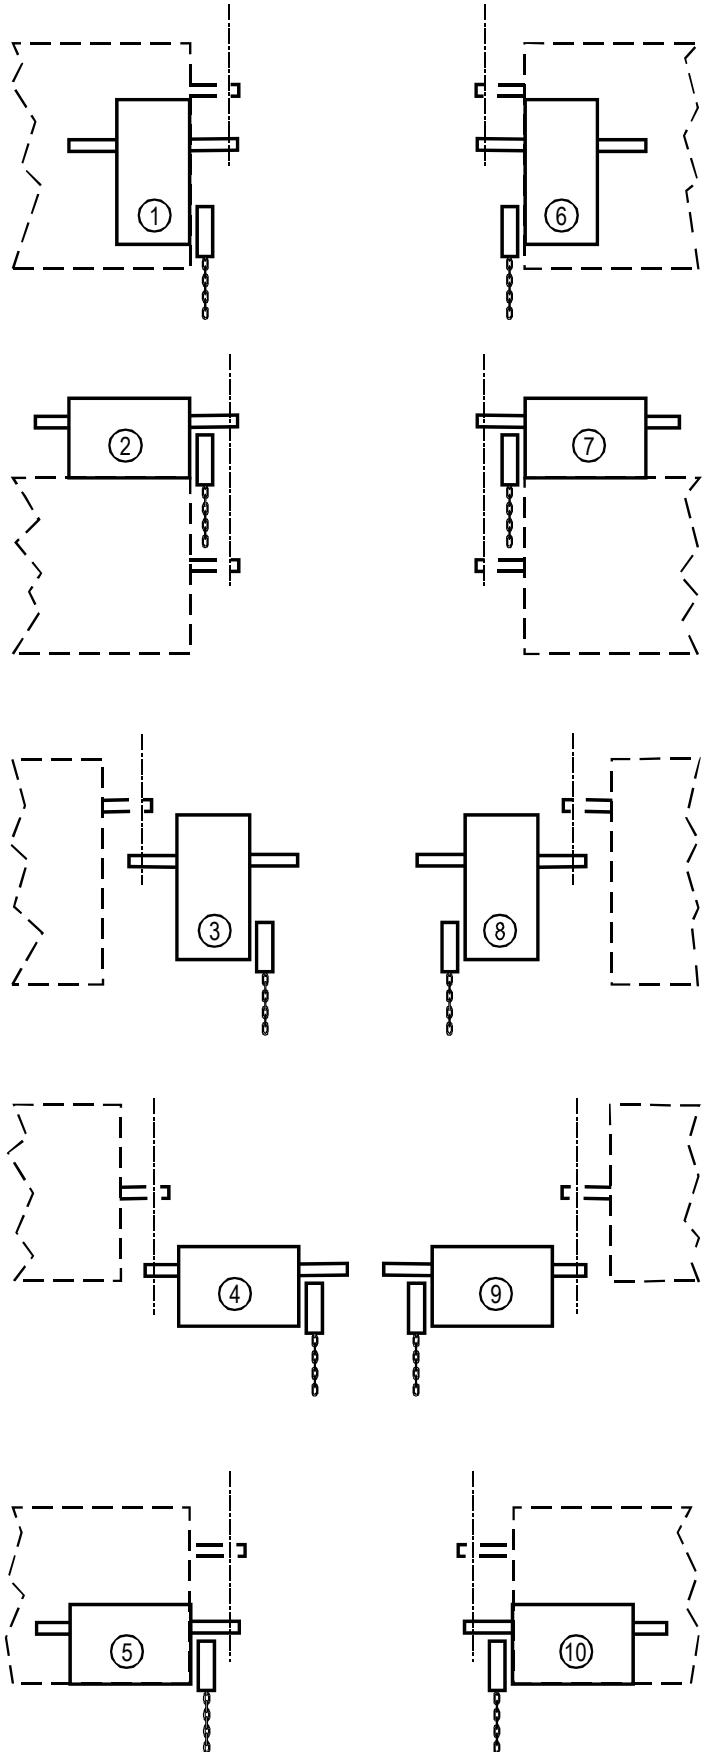

**Figure 5**
1. If the operator is furnished with a chain Hoist (Model H) Refer to **Figure 5** to install the chain hoist. Pass the hand chain, item 13 over the chain pocket wheel and through the guide holes in the chain guard. Fasten the ends of the chain together (to make one continuous loop) by opening and re-closing one link using two pairs of pliers. If the chain is too long, shorten it to the desired length by removing links.
3. Use lag screws to fasten the chain hoist holding bracket furnished with the operator to the wall vertically in line with the sash chain about four feet off the floor. See **Figure 5**. This bracket is also used to hold the release chain in place for both the chain hoist equipped units (H) and floor disconnect models (J).